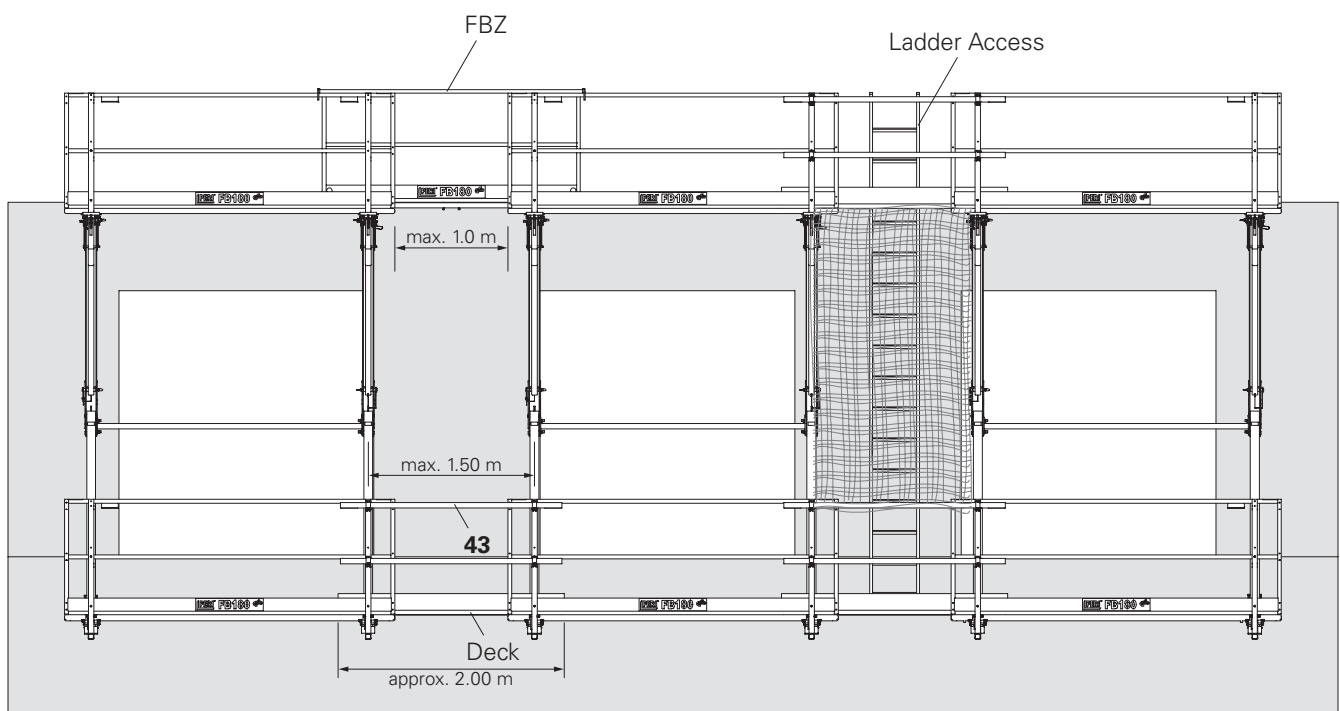

Fig. B6.02
- Supplement the lateral protection with scaffold tubes (**43**) or handrail boards on site. (Fig. B6.02)